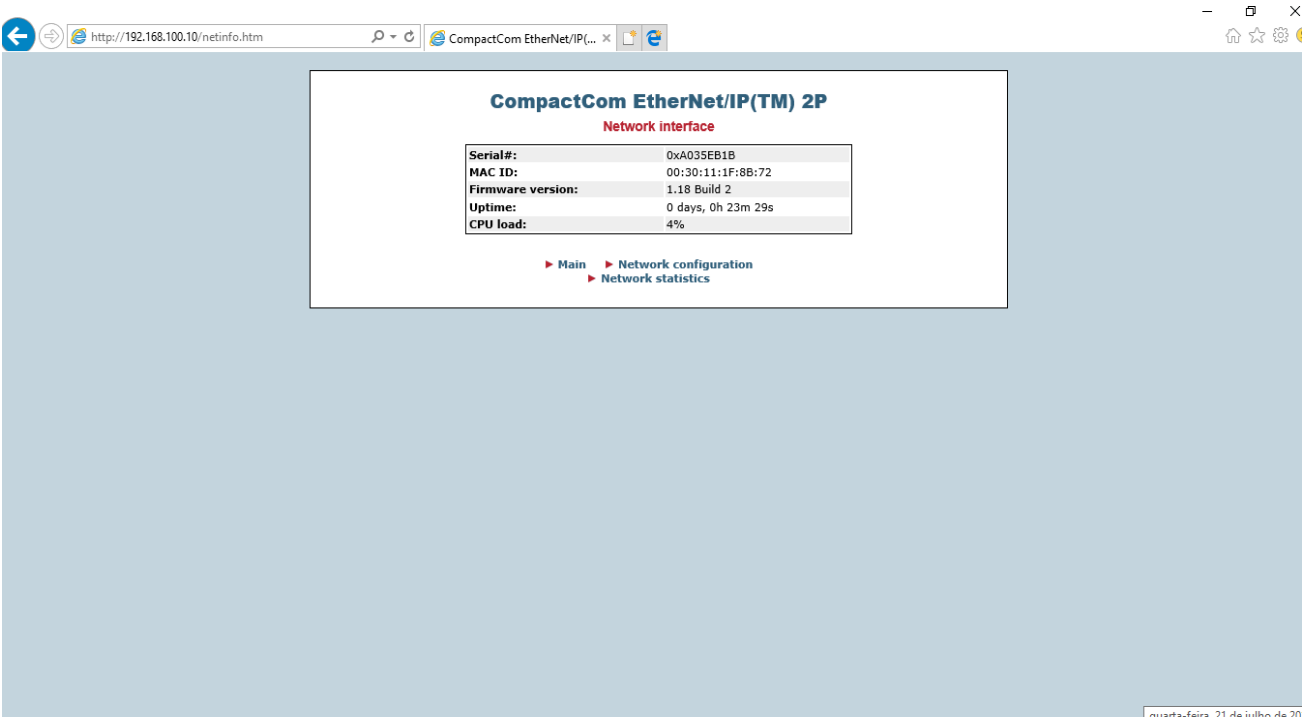

Figure 1.2.12 – Network Interface
- Open the browser and type the hostname or the IP address of the SSW7000. In this example, the SSW7000 has the IP 192.168.100.10. The window showed in the figure **Figure 1.2.12** will be displayed.